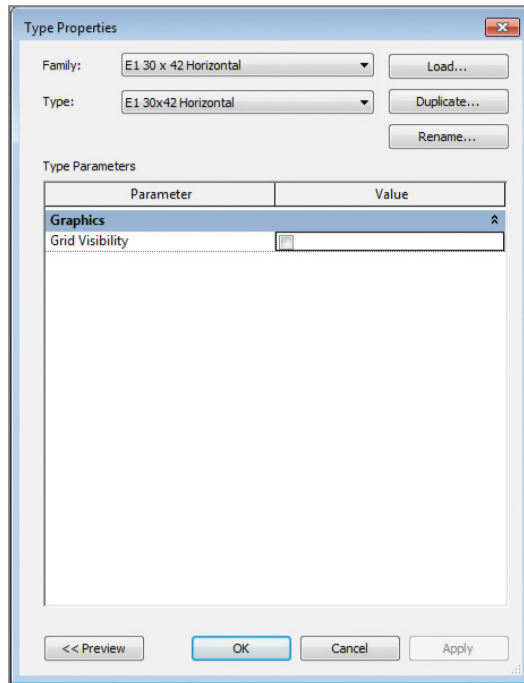

FIGURE 6.31 The Grid Visibility parameter in the Type Properties dialog box
10. Select the title block in the project, and click Edit Type in the Properties palette to open the Type Properties dialog box (Figure 6.31). If you uncheck the Grid Visibility parameter, it turns off the grid throughout your project (rather than just one view at a time).